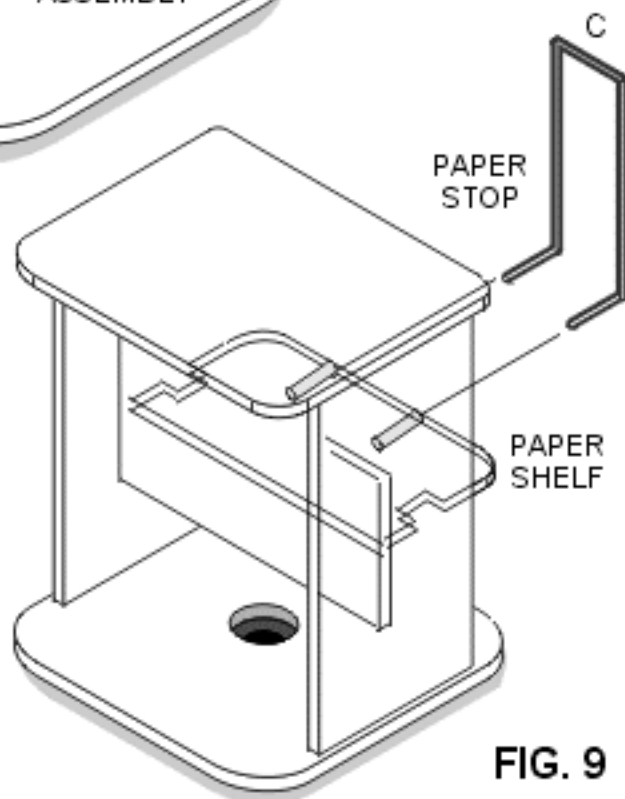

FIG. 9
Align and install (1) PAPER STOP (C) onto the back edge of PAPER SHELF. FIG. 9 Align ends of wire PAPER STOP with factory drilled holes in rear edge of PAPER SHELF. Push in until secure.